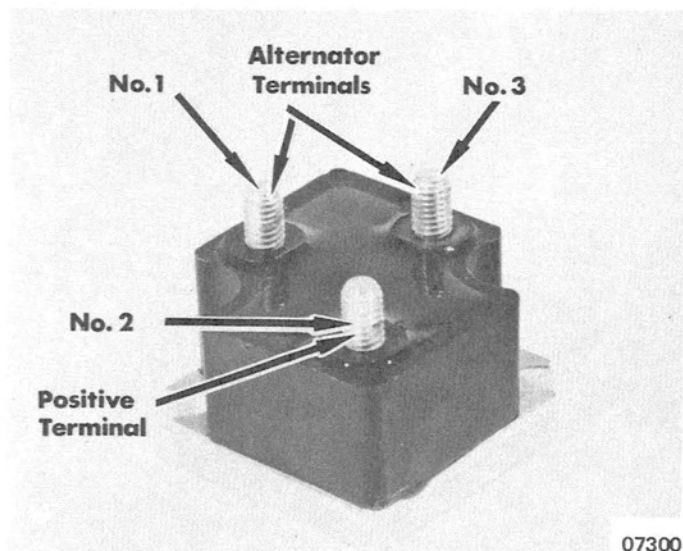

Figure 1. Rectifier Assembly
NOTE: Refer to Figure 1 for rectifier terminal identification.
2. On electric starting snowmobiles, disconnect red fused wire from No. 2 terminal of rectifier. (Figure 1) Using VOA Electrical Tester (C-91-52751), proceed as follows:
- a. With VOA Meter turned to 50 amps range, connect VOA leads between red fused wire and No. 2 terminal of rectifier. (Figure 1)